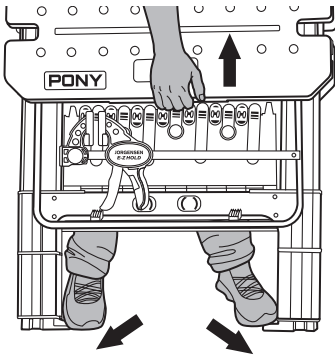

Figure 1
2. Step on the 4 telescopic legs of the WORKTABLE with your both feet at the same time to lift the WORKTABLE up. Make sure all four telescopic legs are pulled out and locked in place. (Figure 1)